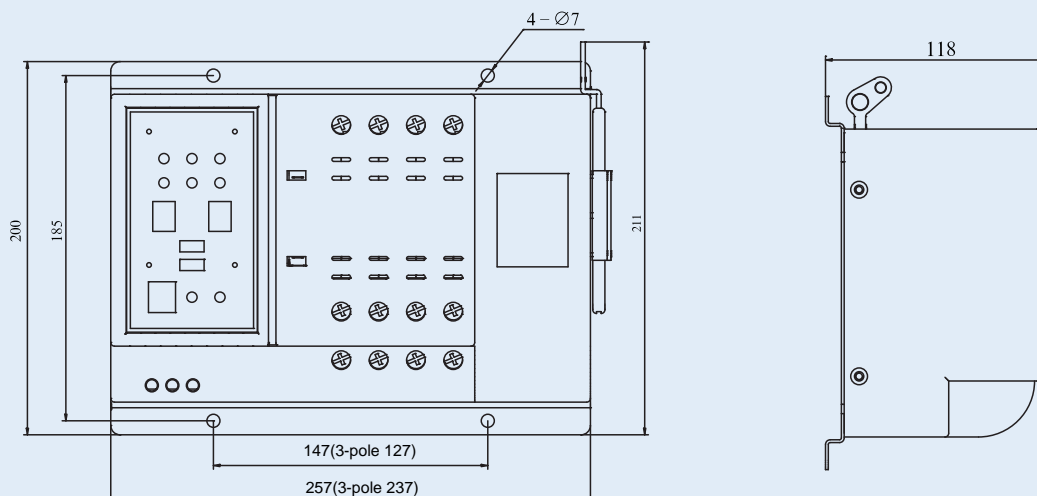

Fig.2
2. Fig. 2 shows overall and installing dimensions of HSQ6y-100, the controller of HSQ6Y-100 ATSE supports split installation. The overall and installing dimensions of controller display module is shown in Fig.4-2, the piercing dimension is 171x91. The upper connects the power supply, the lower is connected to standby power supply and the load.